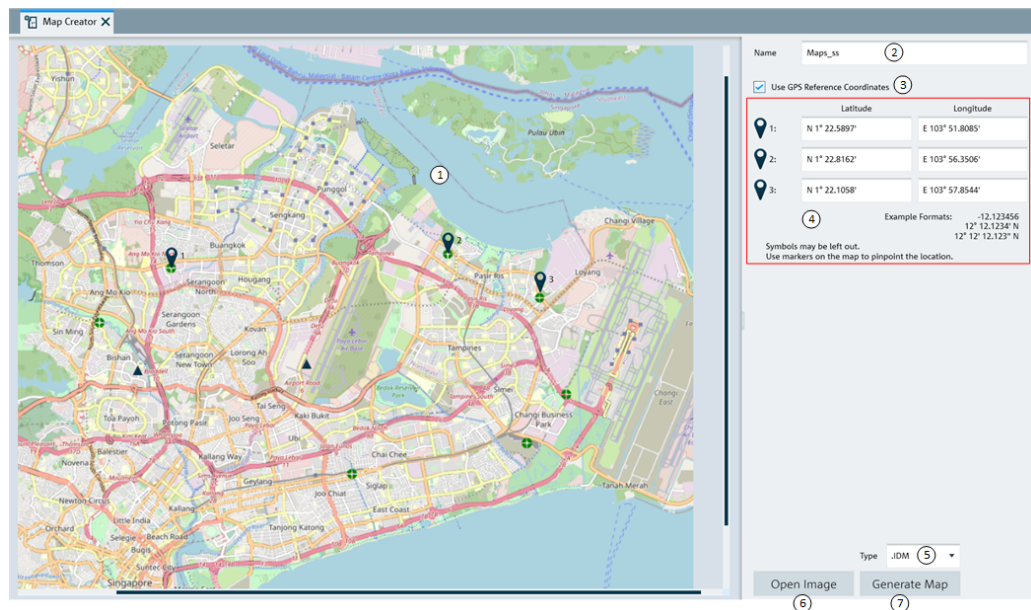

Figure 5-55: Map creator dialog box
the entry field (see item 4 of Figure 5-55) . With a GPS referenced map, it provides the following useful features: